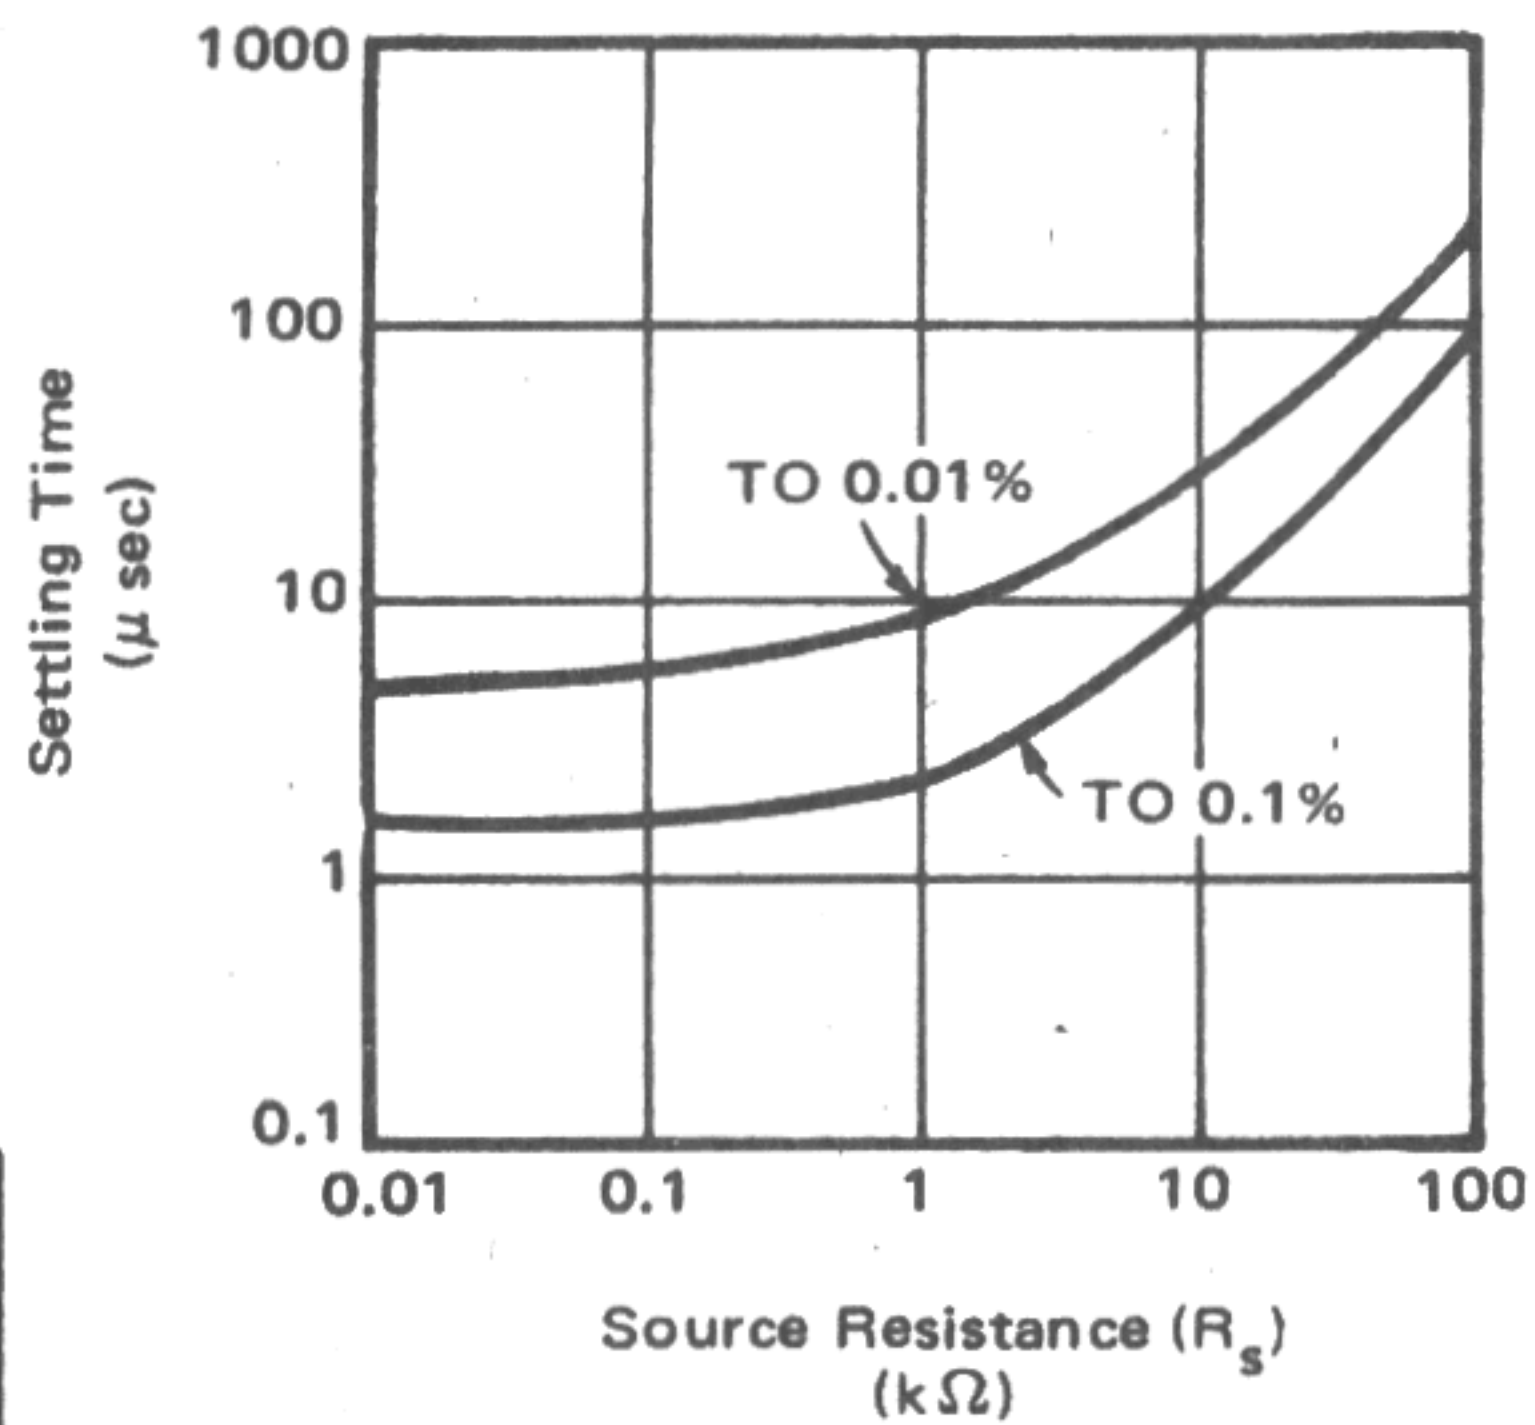

FIGURE 5. Settling time vs source resistance for 20 volt step change.
5. For 20 volts between switched channels, $R_{\text{source}} = 1000\ \Omega$. See Figure 5 for settling time vs. source impedance (R_S).
The source must then redistribute this charge, and the effect of source resistance on settling time is shown in Figure 5. This graph shows the settling time for a 20 volt step change on the input. The settling time for smaller step changes on the input will be less than that shown in Figure 5.